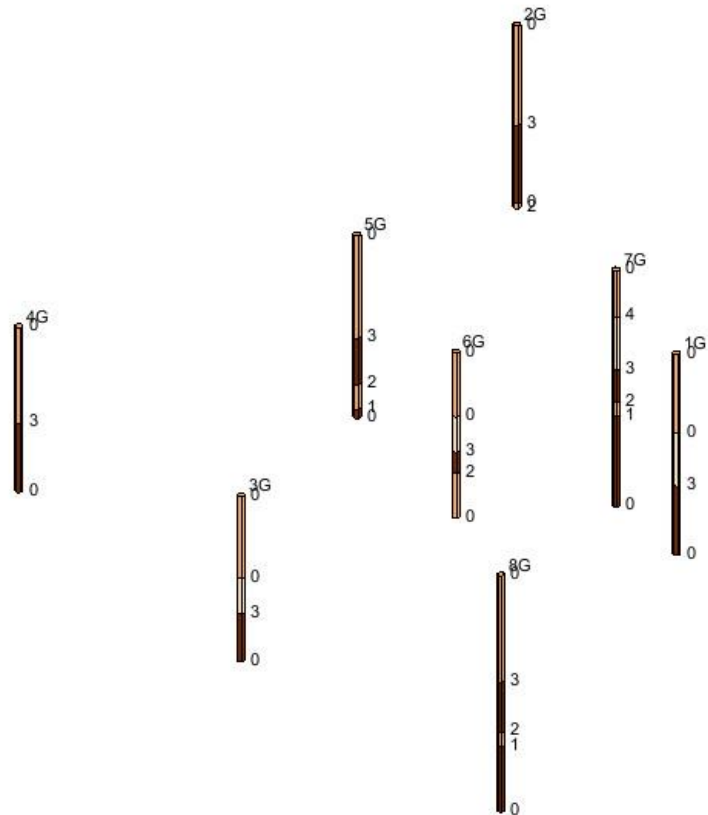

Figure 7 Contacts for Horizon 4
2. Select all of the contacts at the top of the clean sand material as seen in Figure 7.